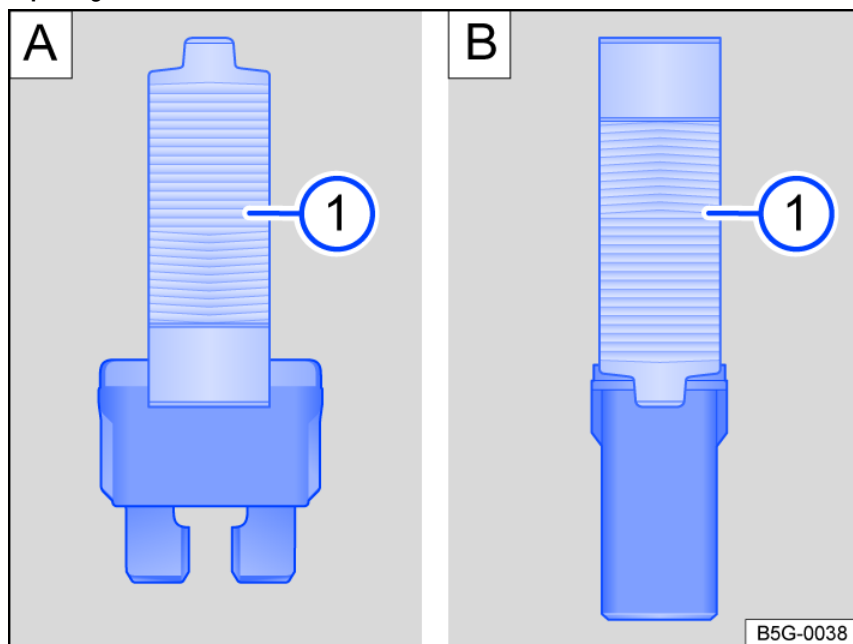

Fig. 181 Remove or install a fuse with the plastic pliers (general example).
① Plastic pliers.
1. Remove plastic tongs from either the fuse box or the cover of the fuse box *fig. 181* ①.
2. Depending on the design of the fuse, slide the appropriately sized clamp on the plastic pliers onto the fuse from above or from the side *fig. 181*.